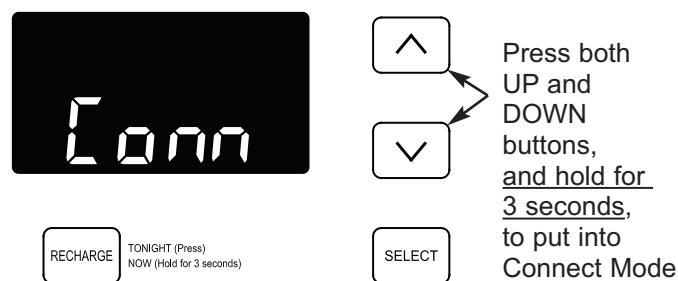

FIG. 33
3. On the water softener's front panel (see Fig. 33), press both the Δ UP and ∇ DOWN buttons, and hold them for 3 seconds.
4. Release the buttons when “Conn” appears in the display (See Fig. 33) and the connection status light above the control panel begins flashing amber.